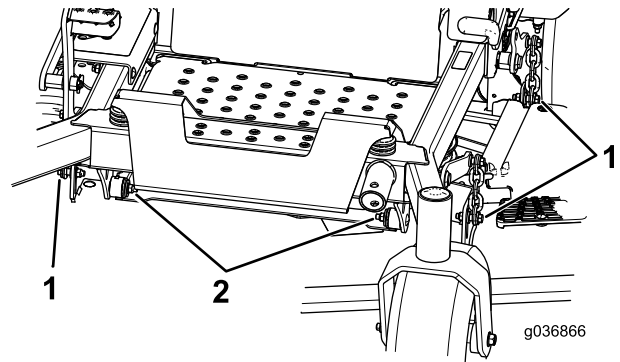

Figure 103
7. Remove and retain the bolts and nuts on both sides of the machine (Figure 103).